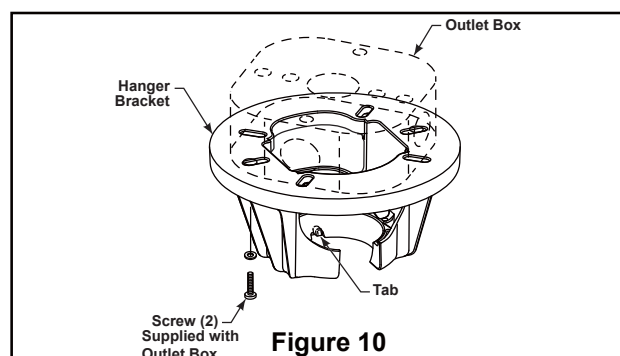

Figure 10
- ☐ 1. Securely attach the hanger bracket to the outlet box using the outlet box screws and washers supplied with the outlet box. (Figure 10)